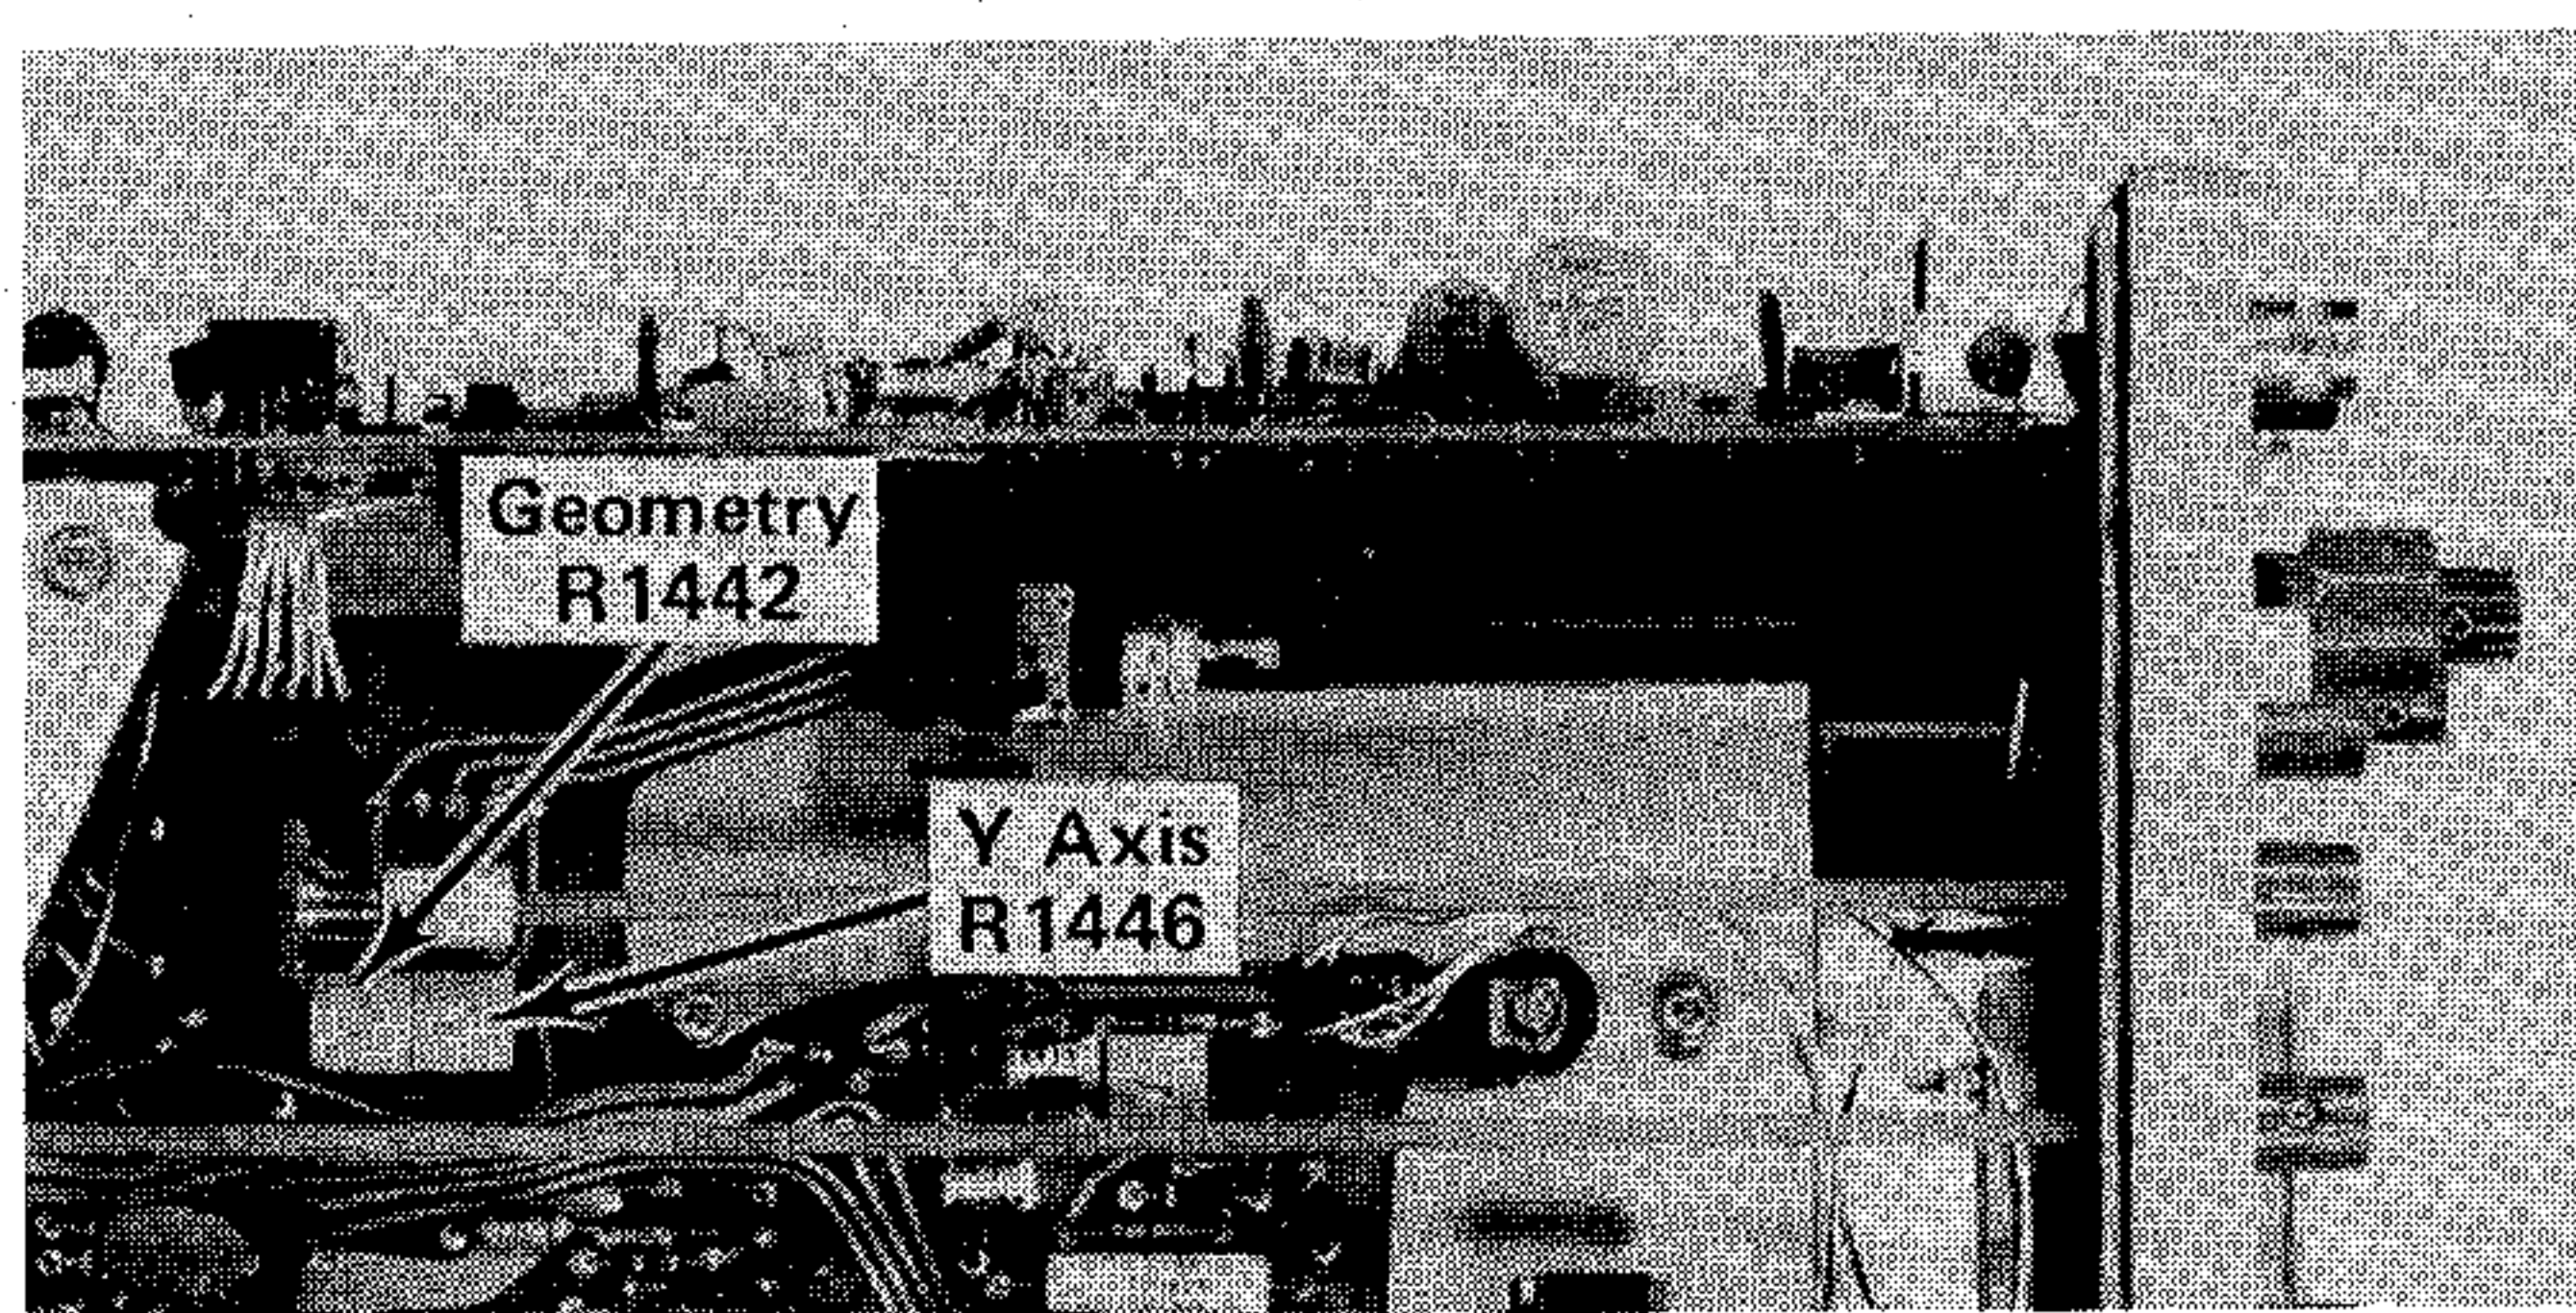

Fig. 5-5. Location of Geometry and Y Axis adjustments.
- ADJUST—Y Axis Alignment adjustment, R1446, (see Fig. 5-5) to align the center time marker with the center vertical graticule line.
- ADJUST—Geometry adjustment, R1442, (see Fig. 5-5) for minimum curvature of the markers across the graticule area.